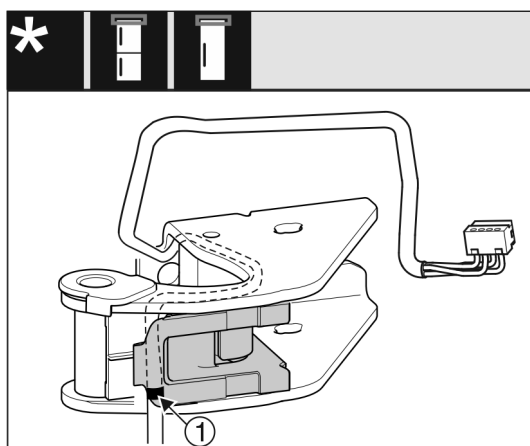

Fig. 26
- ▷ The middle marking must be positioned on the edge of the cable holder Fig. 26 (1).